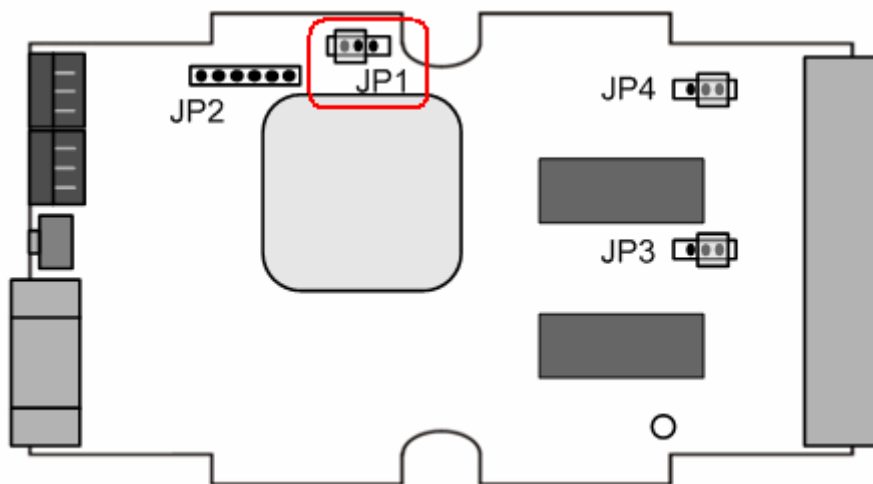

Figure 4-1: JP1 Left Side Position
- (1) Open the shell of I-7532.
- (2) Adjust the JP1 position to the left side like Figure 4-1.
- (3) Follow the firmware update standard steps referring to the section 2.5.1 to start the firmware update function.